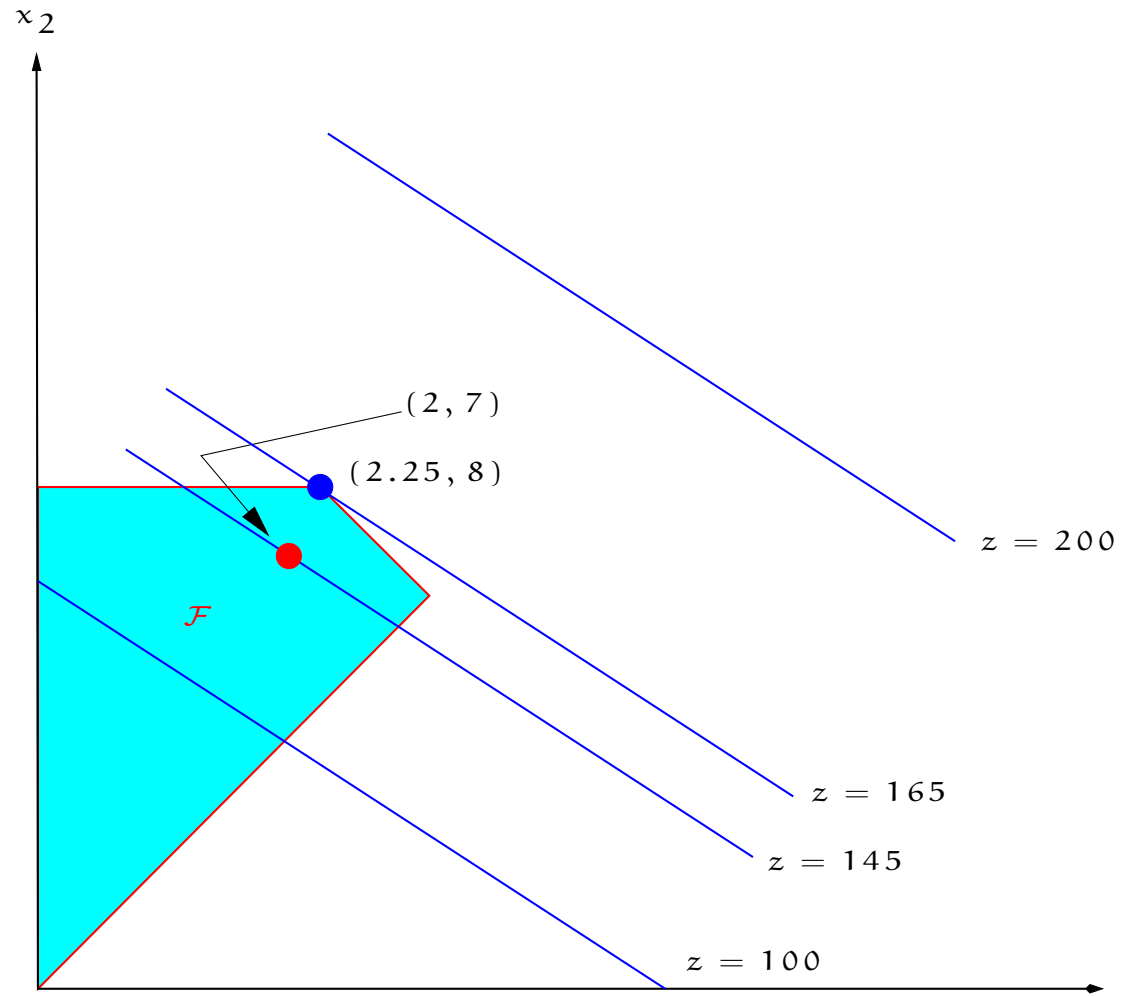

Figure 2: Objective Function Contours for the T&C Corp Problem
- ★ This line is shown in Figure 2, passing through the point $(2, 7)$.
- From Figure 2 you can see that the contours of the objective function are parallel lines.
- ★ This line has only one feasible point, the **blue** dot in Figure 2 namely $x_1 = 2.25$ and $x_2 = 8$.